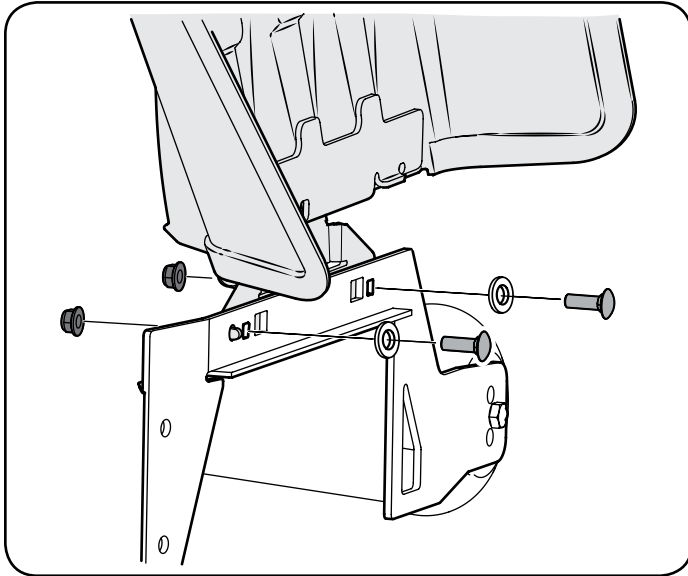

Figure 6
2. Remove the carriage screws, flange lock nuts and flat washers from the hardware pack in your manual bag. See Figure 6.
3. With the previously removed hardware, install the chute deflector on the deck as shown in Figure 6.